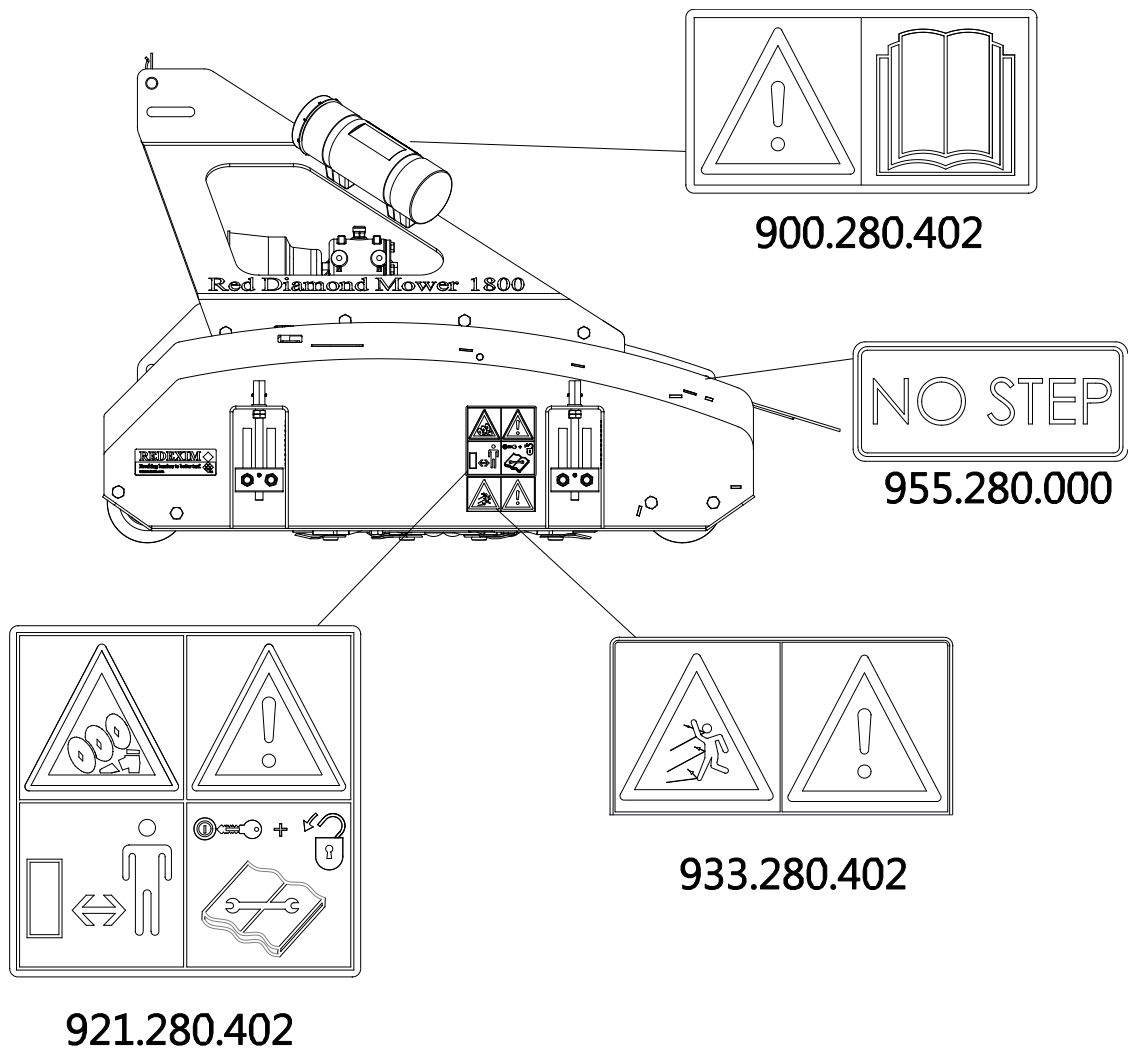

Figure 6
7. Position of the Red Diamond Mower 1800 safety stickers. (Figure 6)